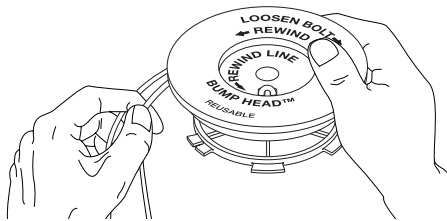

Fig. 16
- Wind the lines in tight even layers, onto the reel (Fig. 16). Wind the line in the direction indicated on the inner reel. Place your index finger between the two lines to stop the lines from overlapping. Do not overlap the ends of the line. Proceed to step 11.
- Take approximately 9 feet (3 m) of new trimming line. Insert one end of the line through one of the two holes in the inner reel (Fig. 16). Pull the line through the inner reel until only about 4 inches is left out.